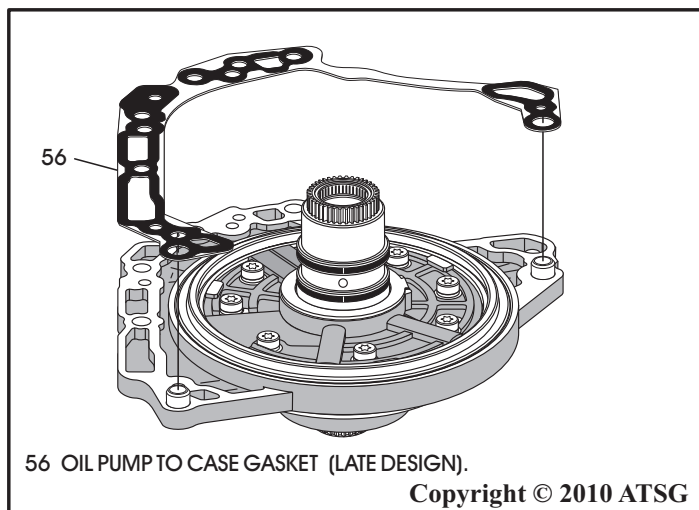

Figure 191
5. Install new design pump to case gasket over the dowels on oil pump, as shown in Figure 191, and retain with a small amount of Trans-Jel®.